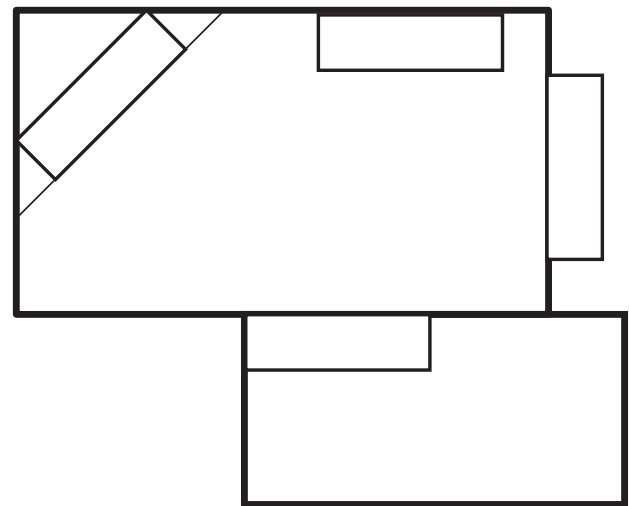

Figure 3 – Possible Fireplace Locations
1. Position fireplace in desired location. Refer to the *Fireplace Location* (page 9, Figure 3) and *Clearances and Height Requirements* (page 10, Figures 4 and 5) sections and *Fireplace and Framing Dimensions* (page 7, Figure 2) illustration found in this manual.
- Minimize modifications to existing construction. Refer to *Figure 3* below for location suggestions.